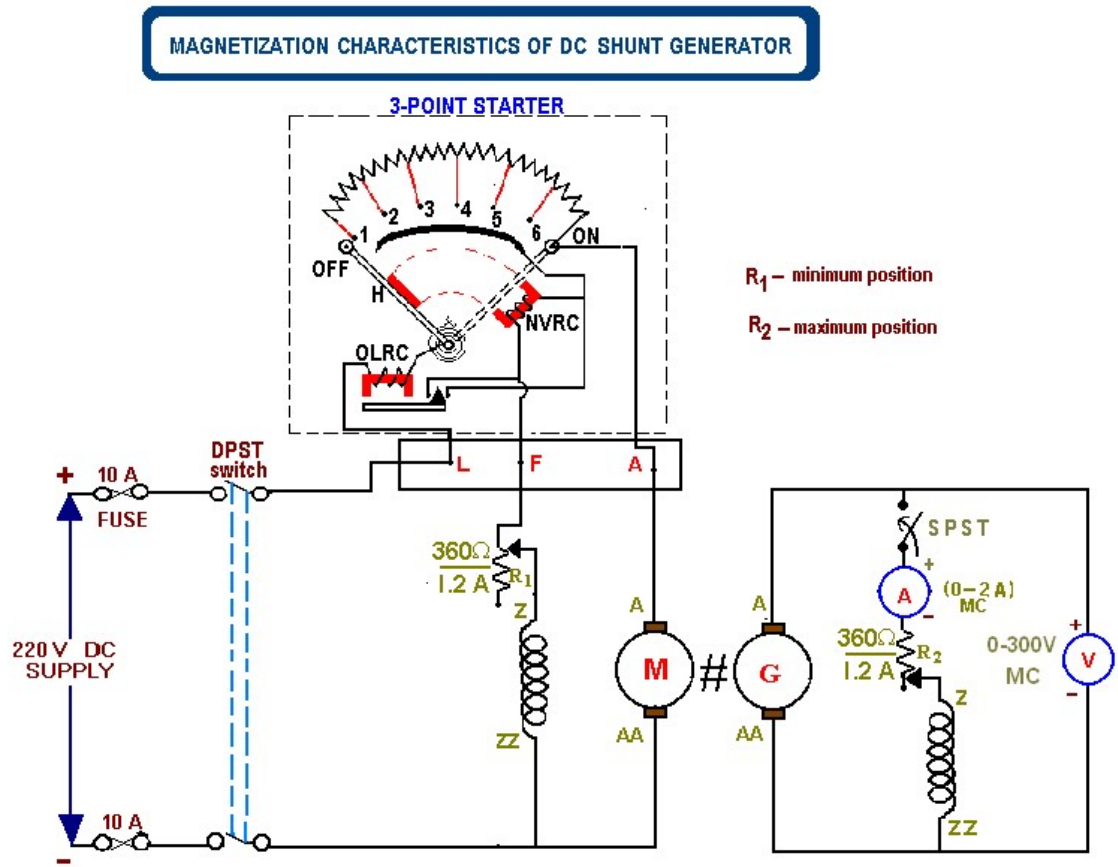

Fig 1.1
1. Make the connections as per circuit diagram (Fig.1.1).